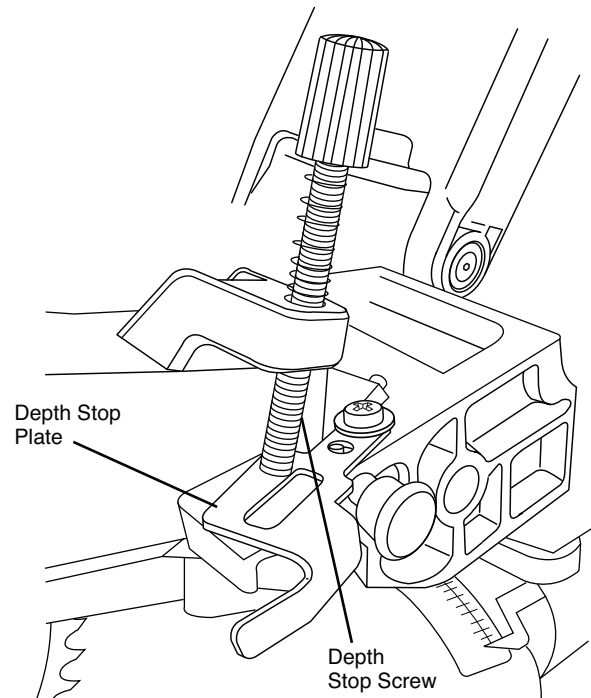

Figure 17
2. Pull the depth stop plate out away from the saw head (see Figure 17).
3. Grip the main handle (item 3, page 11) and push down the saw head while watching the depth stop screw contact the top surface of the depth stop plate. The screw will not pass through the hole in the plate.